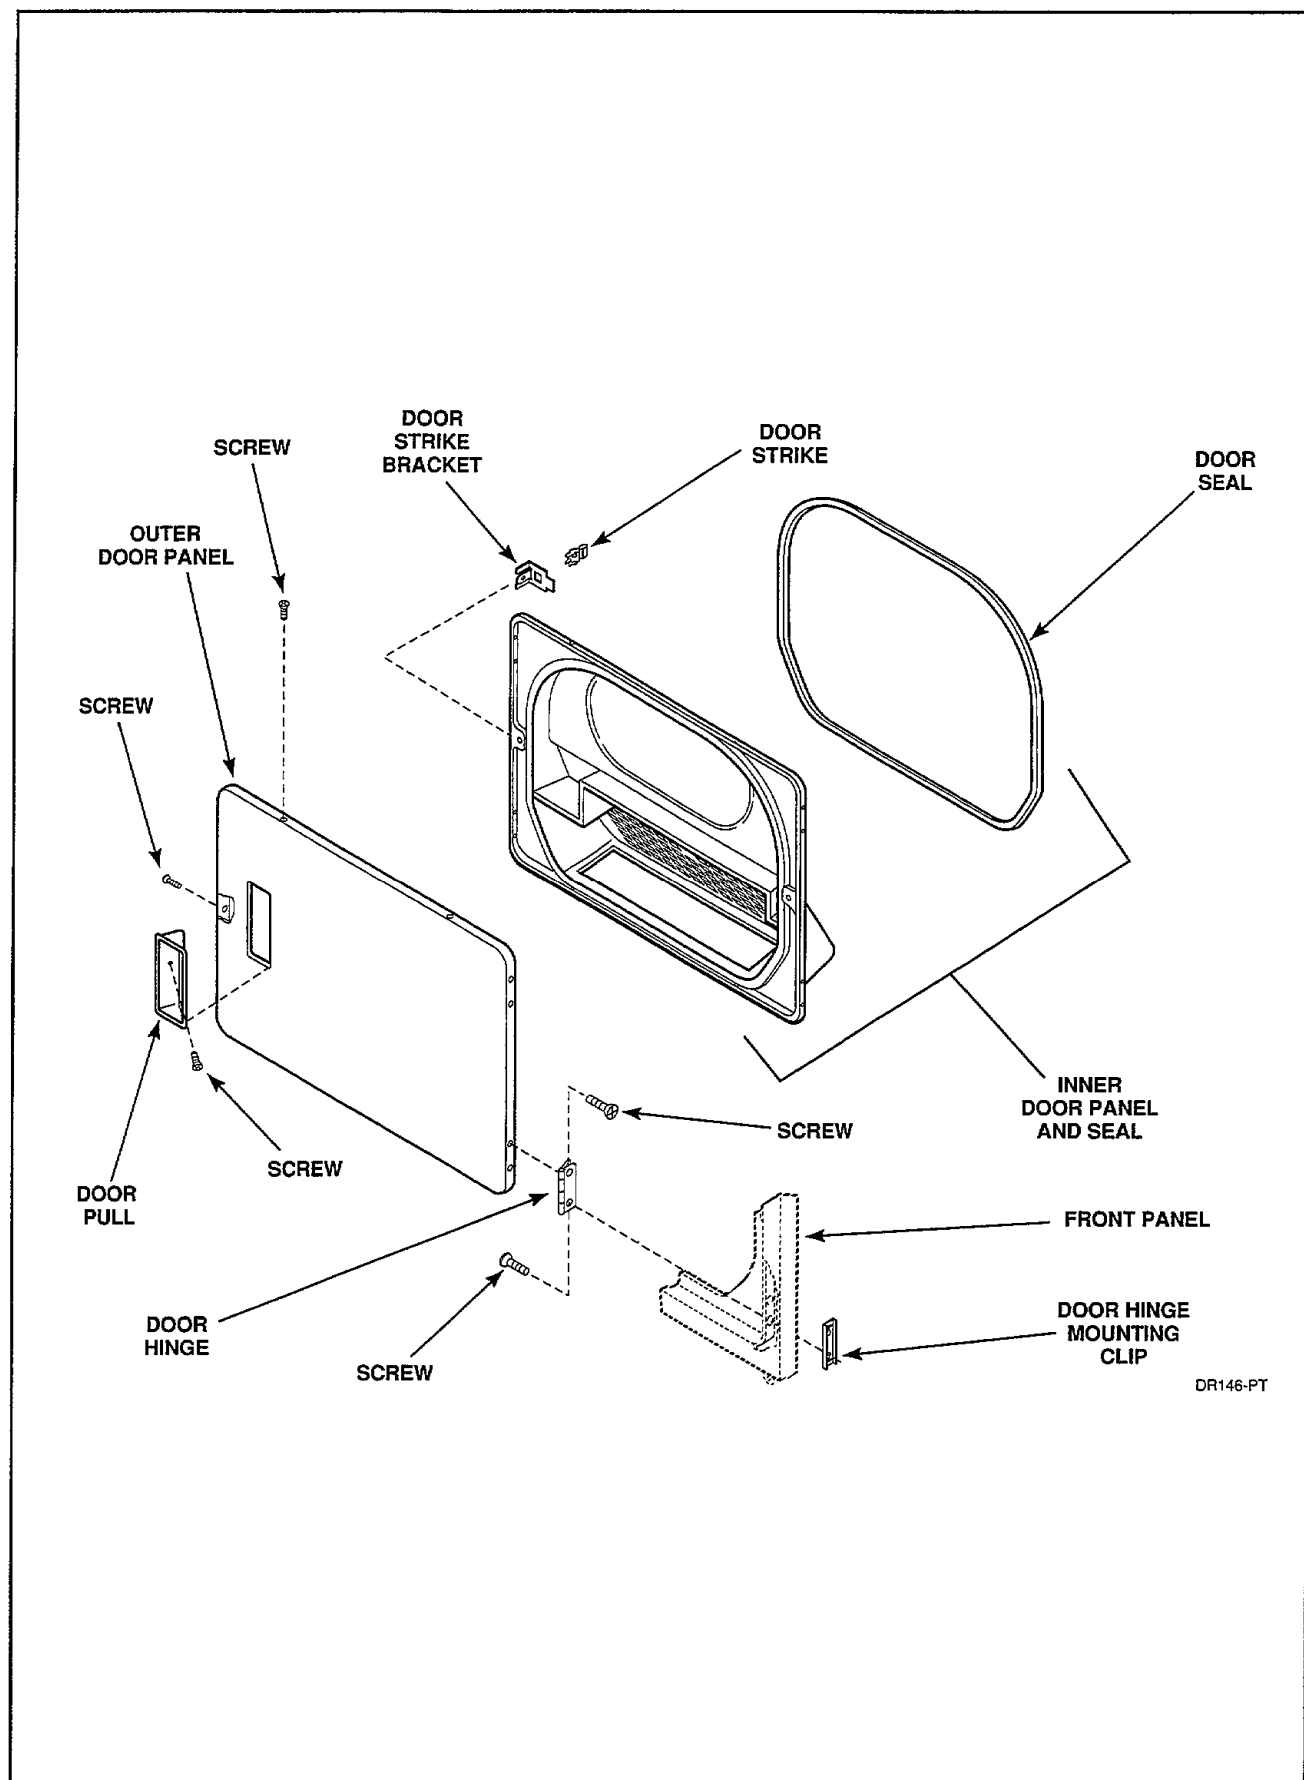

Figure 16
- b. Remove screw holding door strike and bracket to loading door, *Figure 16*, and remove strike and bracket.